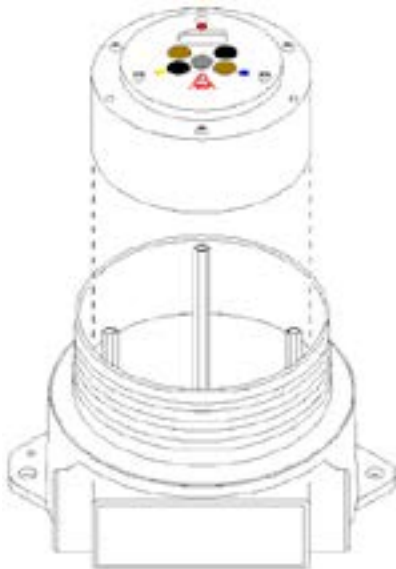

Figure 14. Removing the electronics module
4. Slide the module out of the enclosure base (Figure 14).